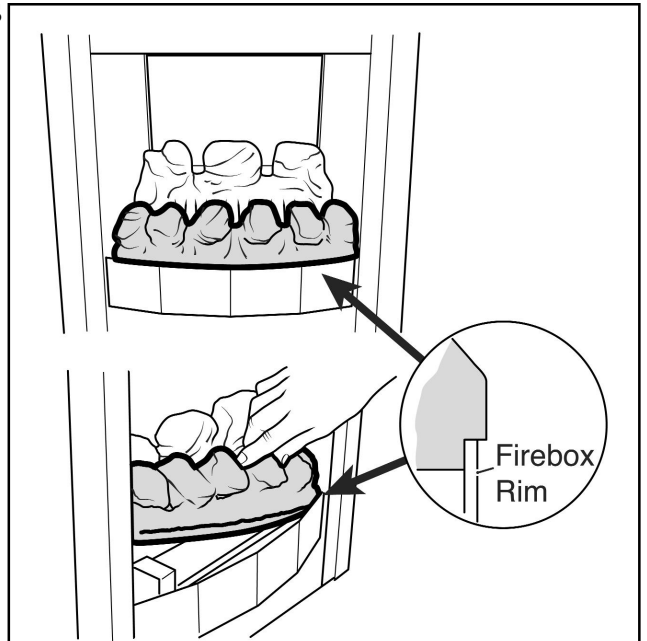

Figure 2. Front base coal position
2. Place the front base coal in the firebox with its bottom front locating over the front rim of the firebox. Pull the coal forward so that it locates immediately behind the front rim of the firebox (See figure 2). The front base coal will touch the rear base coal as it is located.